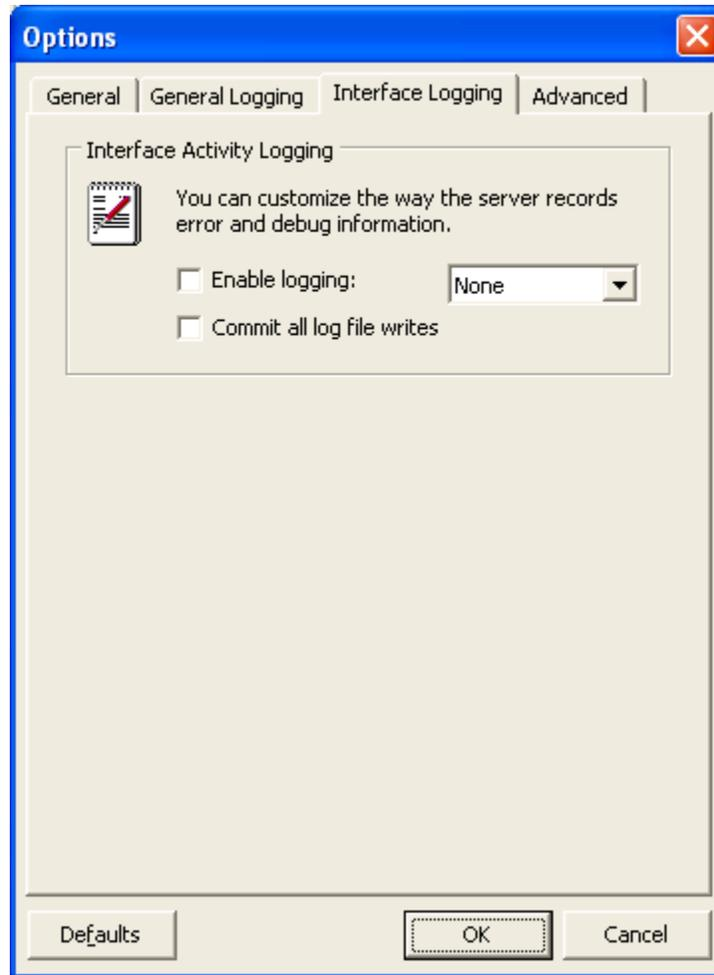

Figure 16 - Interface Logging Options Tab
3. From the **Options** window, select the **Interface Logging** tab (Figure 16).